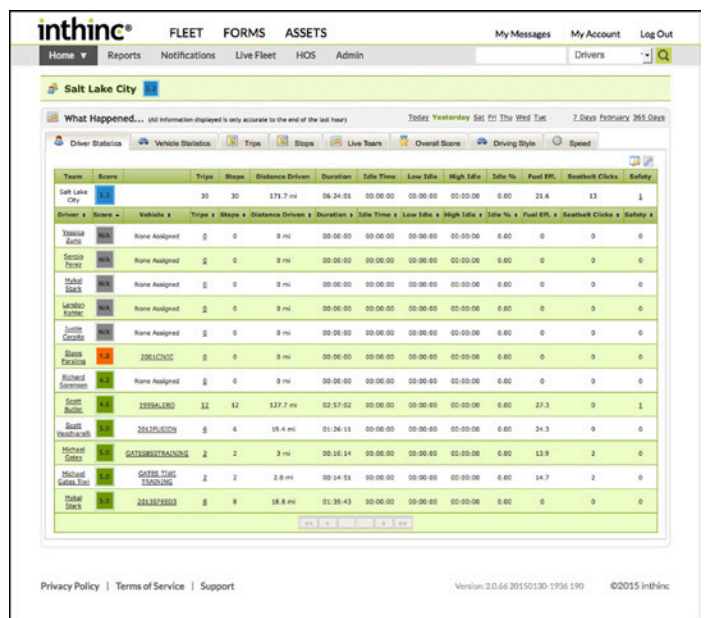

Figure 5 Team Performance Dashboard
- **Team Dashboard (Figure 5)** shows the team view that displays for a non-administrator, such as a team supervisor or a user with limited access to information within the portal.